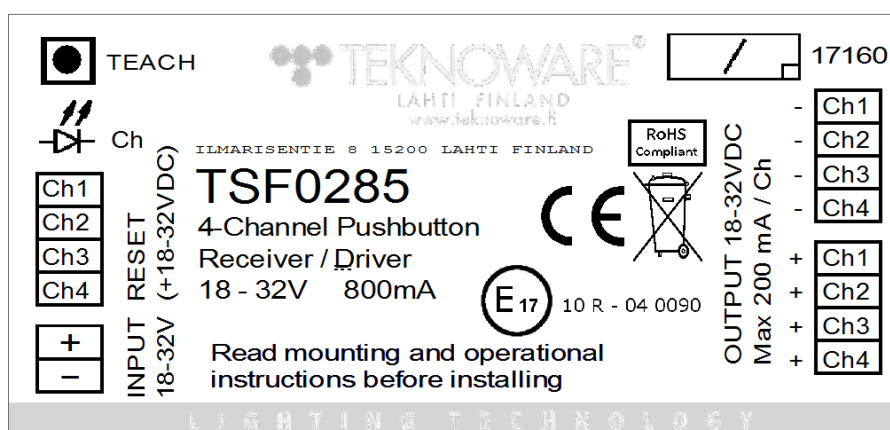
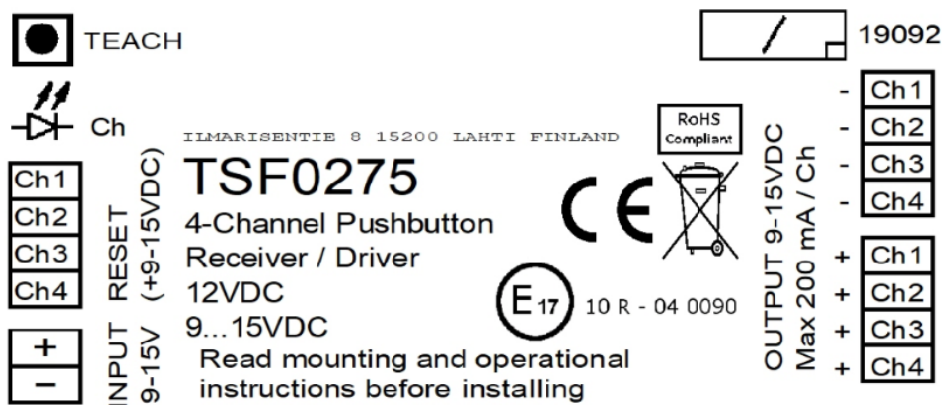
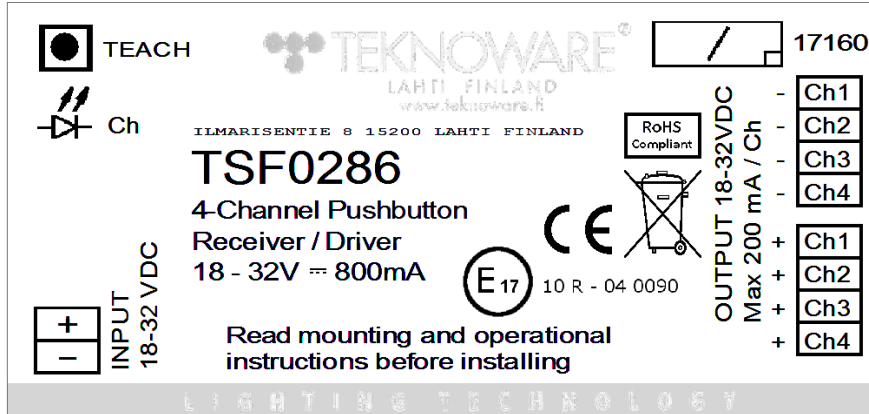
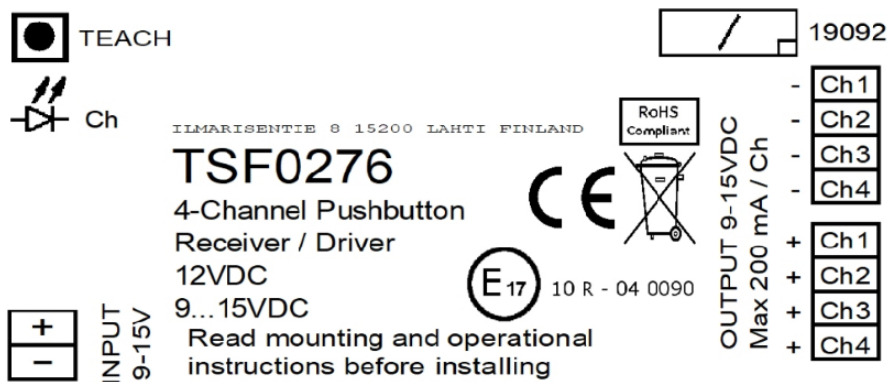

Figure 2. Wiring diagram for TSF0285
Figure 3. Wiring diagram for TSF0275
Figure 4. Wiring diagram for TSF0286
Figure 5. Wiring diagram for TSF0276
1. Connect a 24 VDC or 12 VDC supply voltage to the receiver. When 24 VDC is used, see Figure 2 or Figure 4 for the correct terminals. When 12 VDC is used, see Figure 3 or Figure 5.